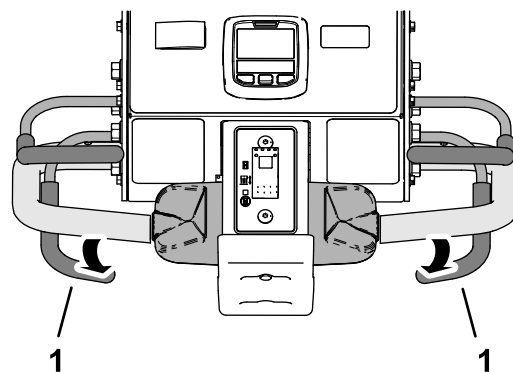

Figure 92
- As the front tire rolls over the perimeter of aeration area, release the aerate bail (Figure 92).